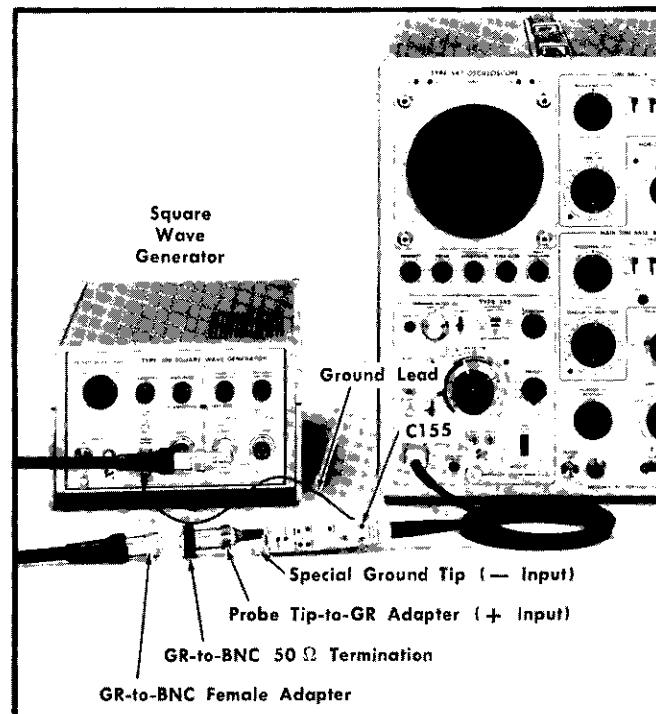
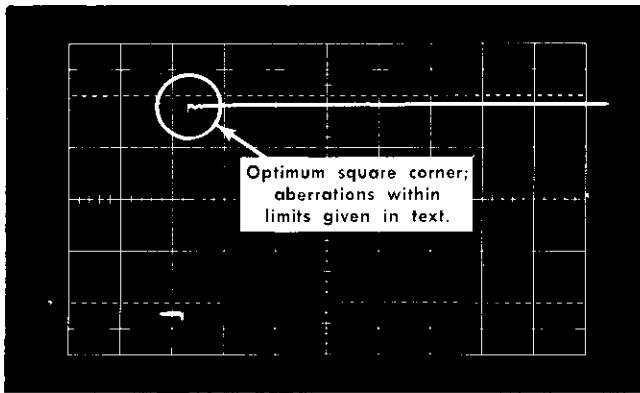

Fig. 6-9. Equipment setup for transient response adjustment, step 6.
Fig. 6-10. Transient response waveform, step 6. Sweep rate 0.1  $\mu$ s/div; deflection factor 20 mV/div.
a. The preliminary control settings apply. The equipment setup and adjustment location appear in Fig. 6-9.
i. Adjust the Oscilloscope triggering and horizontal position controls to center the display as shown in Fig. 6-10.
l. ADJUST—C155 (Fig. 6-9) for optimum transient response as exhibited by optimum squareness at the upper leading corner of the square wave. Rounding, overshoot and tilt should be within the following values. Use Fig. 6-10 as a guide.